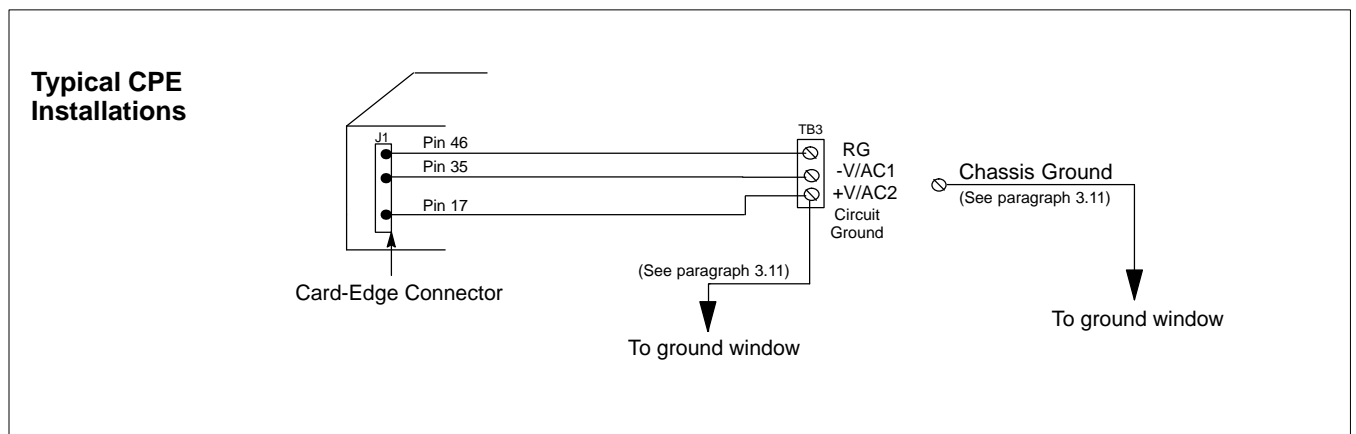

Figure 2. Typical Equipment Grounding Diagram
3.11 To ensure proper grounding and the safety of personnel, this mounting assembly must be grounded as shown in Figure 2, unless local codes state otherwise. Westell recommends the use of 14 AWG (minimum) for the purpose of grounding this assembly. However, grounding cable must be a minimum of 22 AWG, and the gauge size must be equal to or heavier than the gauge of the power supply cables to conform to UL1459 requirements.